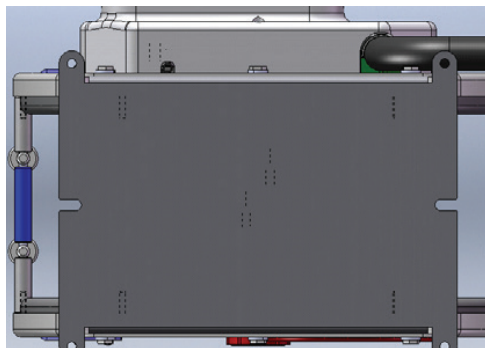

Fig. 1
**STEP 1****Mount Cablemaster (fig. 1)**